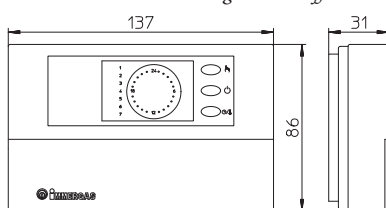

Fig. 1-3
- Cronotermostat digital On/Off (Fig. 1-3). Cronotermostatul permite: